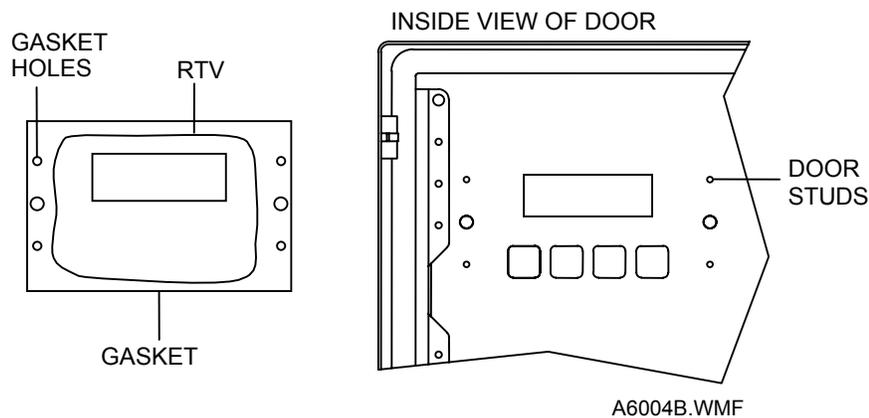

Figure 4-4. Gasket Installation
5. Place a small bead of RTV (approximately 1/16 inch wide) onto the gasket surface. Align the gasket holes to the door studs with the RTV facing the door and press into place. Refer to Figure 4-4.